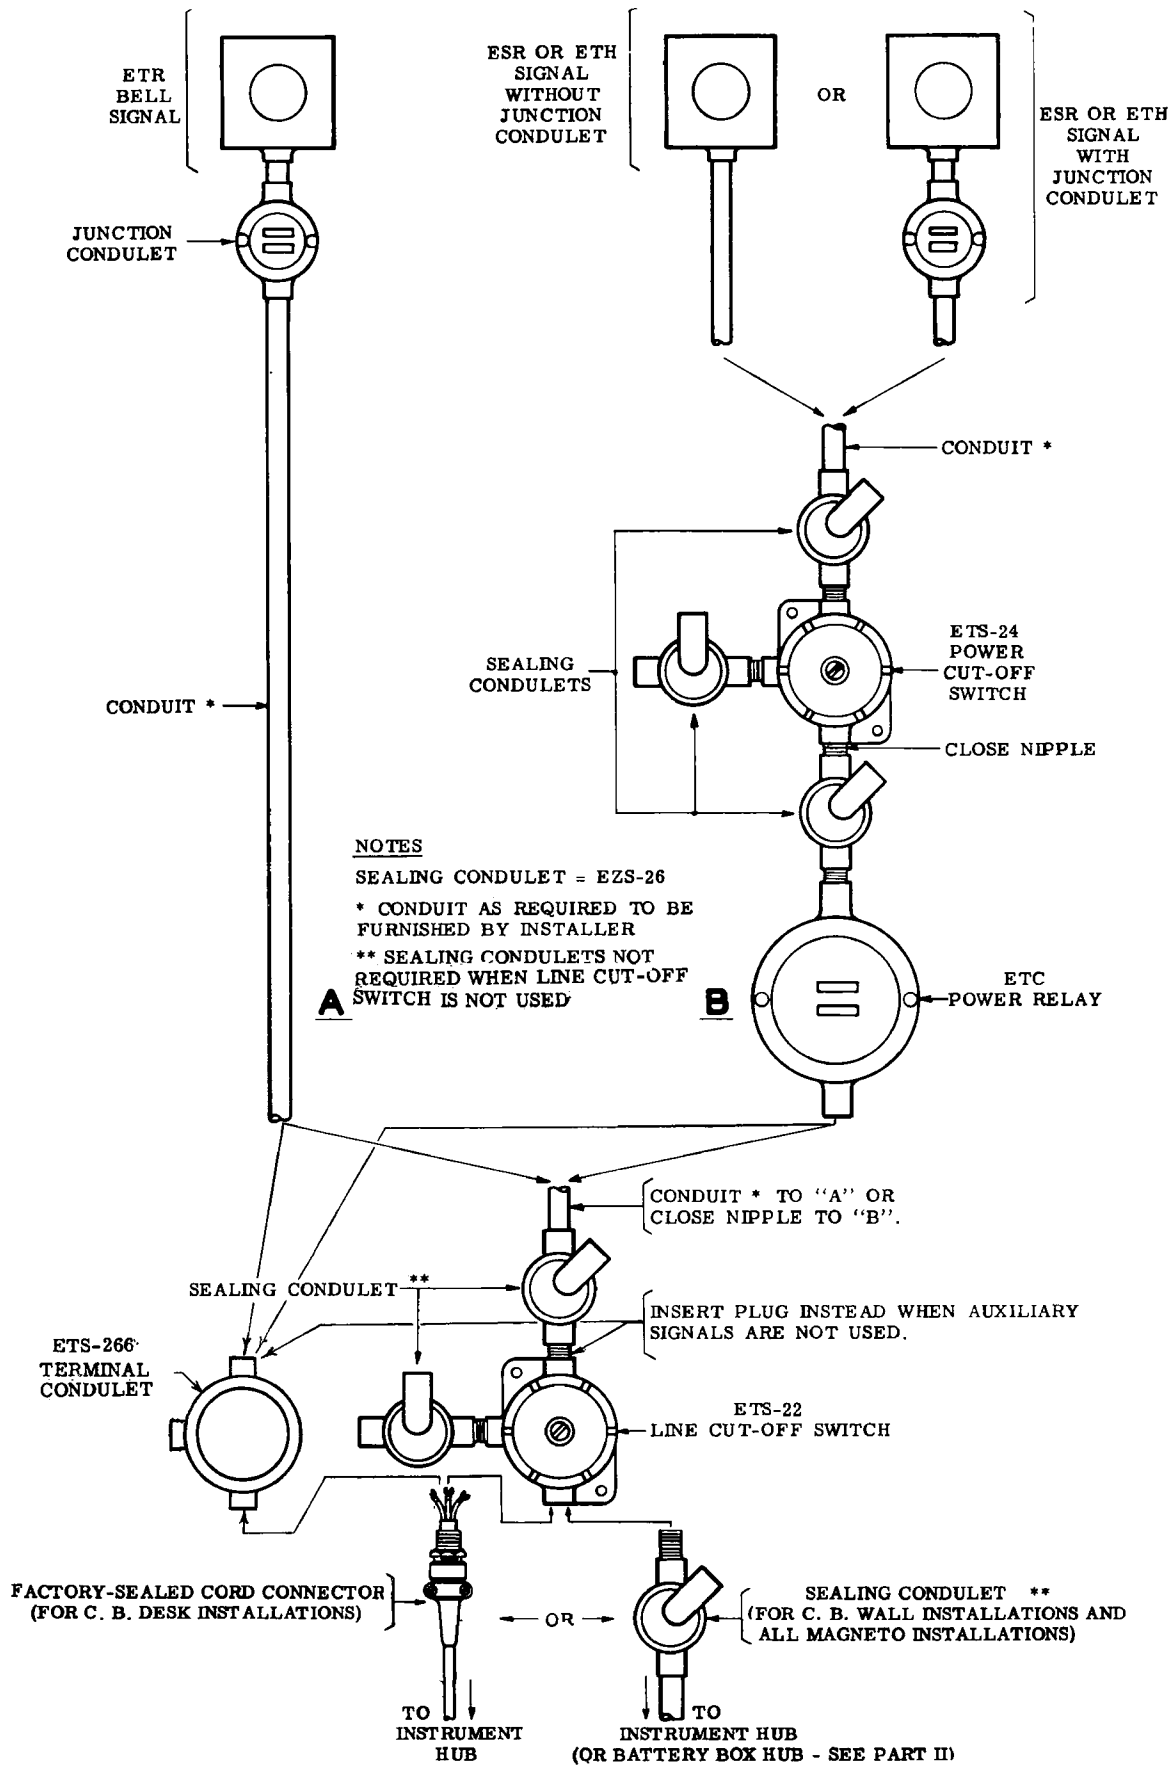

Fig. 7: Assembly of Equipment Units
the installation. Generally, the line cut-off switch, power relay (if used) and power cut-off switch (if used) are assembled together in close proximity through the use of conduit or close nipples, plus the required sealing Condulets (see Fig. 7). (This assembly will also include the wall-mounting instrument unless the instrument is not to be mounted on the same surface as the other units.) The entire assembly is bolted to a suitable vertical surface. The auxiliary signal (if used) can be assembled beforehand to the other units with conduit if it is desirable to locate the signal near the ceiling, directly above the other units. It can also be mounted at a distance from the other units with conduit installed between.
- (g) Screw EZS-26 sealing Condulets into the line cut-off switch hubs. Condulets are required only on the side and bottom hubs when auxiliary signals are not employed. Assemble the line cut-off switch to the other units (power relay, power switch, signal—if used) following, in general, the instructions given in Sections 6.32, 6.33 and Figure 7 for the respective types of installations.
Where a desk installation is desired, the line cut-off switch and other units (if any) are assembled (see Fig. 7) and then mounted on any surface (wall or pillar) convenient to the desk. If the desk is centrally located so that no vertical mounting surfaces are adjacent, then the line cut-off switch may be mounted on the side of the desk. In this instance, the other units (if any) can be separately assembled and mounted a distance away on a suitable vertical surface with conduit installed between these units and the line cut-off switch.
The procedure for assembling the line cut-off switch to the other units (if any) and for installing the required conduit to these units is the same as indicated in Sections 6.31, 6.32, 6.33 and Figure 7 depending on the respective types of installation desired (signal, no signal, location, etc.). Directions for installing the necessary wiring and for completing the installation are given in Section 6.4 below.